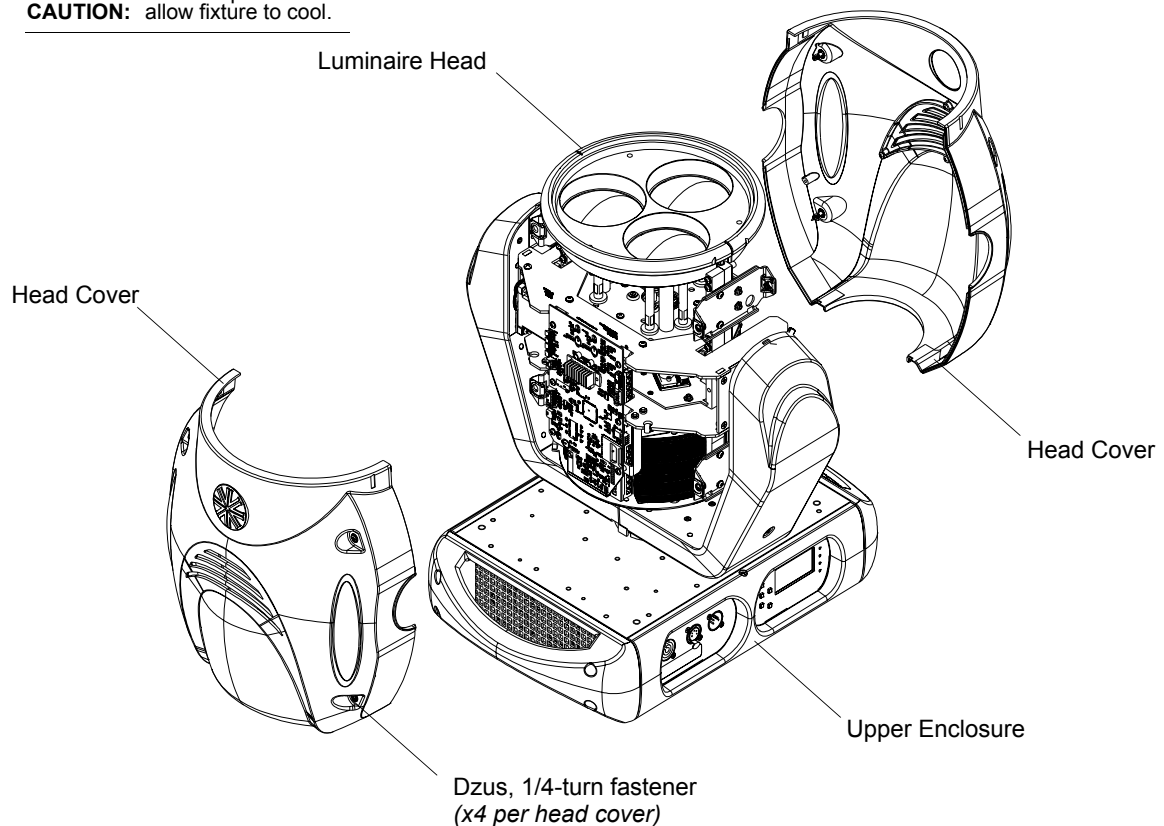

Figure A-2: VLX3 Wash Luminaire
- Step 2. Carefully set luminaire on upper enclosure, rotate head as shown in Figure A-2, and engage tilt lock.